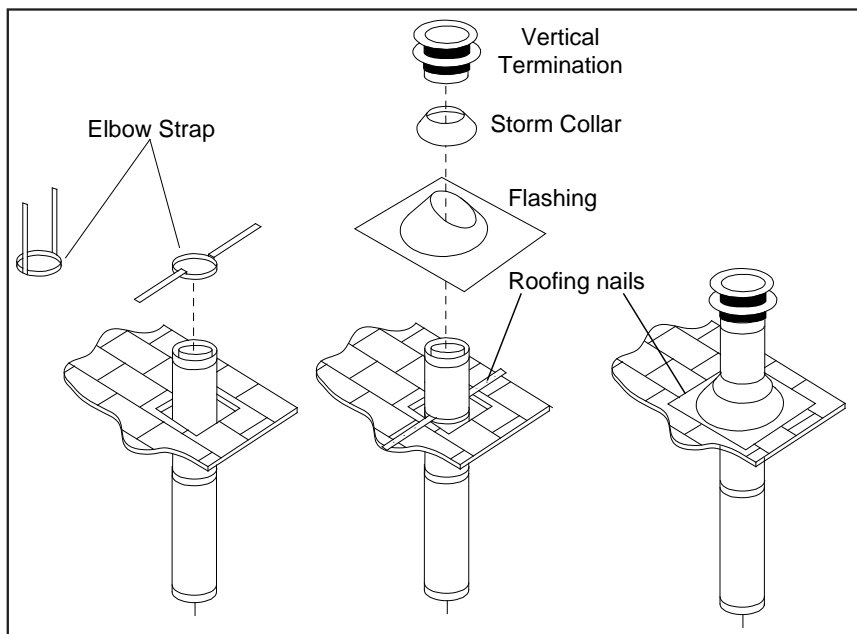

Figure 38. Vertical Vent Termination
- STEP 6.** Once the pipe sections have been joined, and run up through the hole in the roof, slip an elbow strap over the exposed sections, bend the support straps outwards, and push the elbow strap down to the roof level, as shown in Figure 38. Tighten the clamp around the pipe section. Use a level to make sure the pipe is truly vertical. With roofing nails, secure the support straps to the roof. Seal the nails holes heads with non-hardening mastic. Trim the excess length of the support straps that extend out beyond the edge of the flashing.